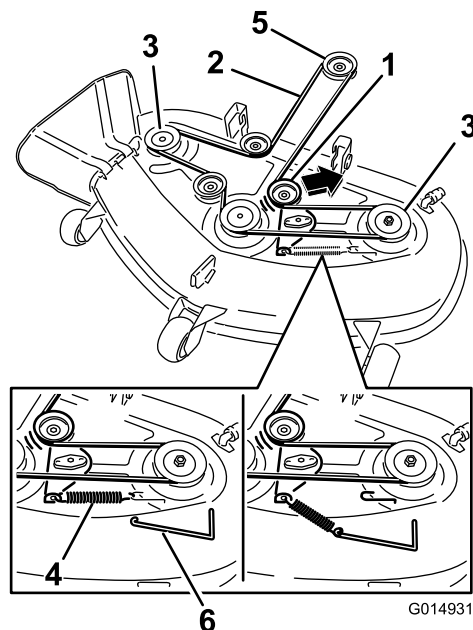

Figure 63
7. Using a spring-removal tool, install the idler spring over the deck hook, and place tension on the idler pulley and mower belt (Figure 63).
5. Using a spring-removal tool (Toro Part No. 92-5771), remove the idler spring from the deck hook to remove tension on the idler pulley, and roll the belt off the pulleys (Figure 63).
6. Route the new belt around the engine pulley and mower pulleys (Figure 63).